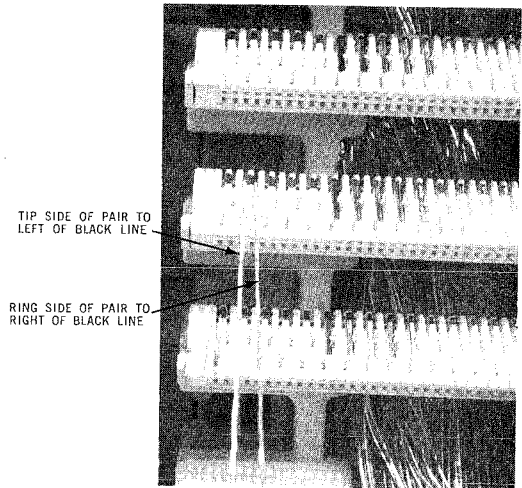

Fig. 7
4.03 Bring the wire out and over the connector module cover on which the wire is to be terminated. Split the pair over the black mark on the module cover, placing the tip wire (yellow with blue trace) to the left and the ring wire (blue with yellow trace) to the right. (See Fig. 7.)